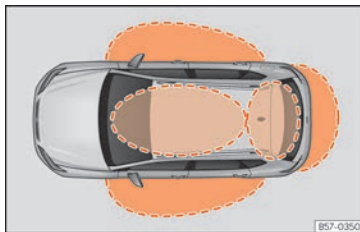
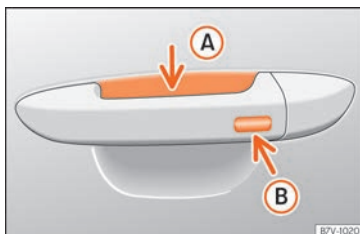

Fig. 94 Keyless Access: proximity zones.
Fig. 95 Door handle: sensor surfaces
>>> Fig. 95
Keyless Access is a key-free locking and ignition system to unlock and lock the vehicle without actively using its key. To do this, all that is required is to have a valid vehicle key in the detection area where you are attempting to access the vehicle »» Fig. 94 and to touch one of the sensor surfaces on the door handles »» Fig. 95 or operate the *softtouch*/handle on the rear lid »» page 108 »» ❶.
If a valid key is in the proximity of the car, »» Fig. 94 the Keyless Access locking and starting system gives the key entry as soon as
- Grip one of the front door handles. When you do this, you touch the sensor surface »» Fig. 95 (A) (arrow) of the handle and the vehicle unlocks.
- Touch (once) the locking sensor surface »» Fig. 95 (B) (arrow) on one of the front door handles. The door that is used must be closed.
• Touch (once) the sensor surface »» Fig. 95 **B** (arrow) on one of the front door handles. The vehicle locks with the “Safe” security system »» page 103. The door that is used must be closed.
• Touch (twice) the sensor surface »» Fig. 95 **B** (arrow) of one of the front door handles to lock the vehicle without activating the “Safelock” security system »» page 103.
When the vehicle is locked, the rear lid automatically unlocks on opening if there is a valid vehicle key in the proximity »» Fig. 94.
- Push the central locking button  on the remote control and touch the locking sensor surface of the driver door handle »» Fig. 95 **B** within the following 5 seconds. Do not grasp the door handle; otherwise the
To close all the electric windows and the sunroof using the **comfort function**, keep a finger for a few seconds on the locking sensor surface »» Fig. 95 **B** (arrow) of the door handle until the windows and roof have closed.
The sensor surfaces on the door handles could engage if hit with a water jet or high pressure steam if there is a valid vehicle key in the proximity. If at least one of the electric windows is open and the sensor surface »» Fig. 95 **B** (arrow) on one of the